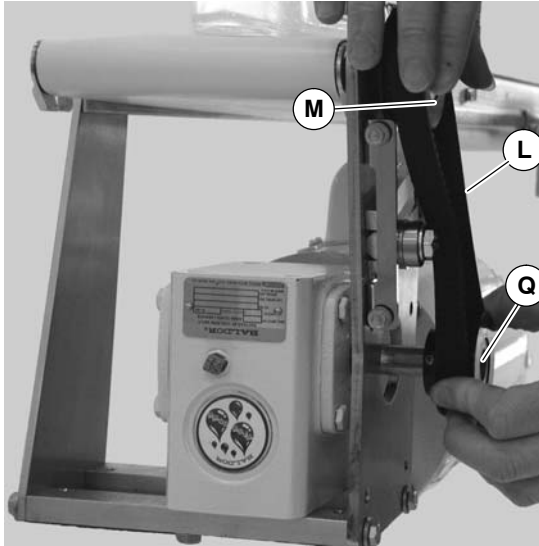

Figure 42
8. Wrap timing belt (L of Figure 42) around drive pulley (Q) and driven pulley (M). Attach drive pulley (Q) to gear reducer shaft.²